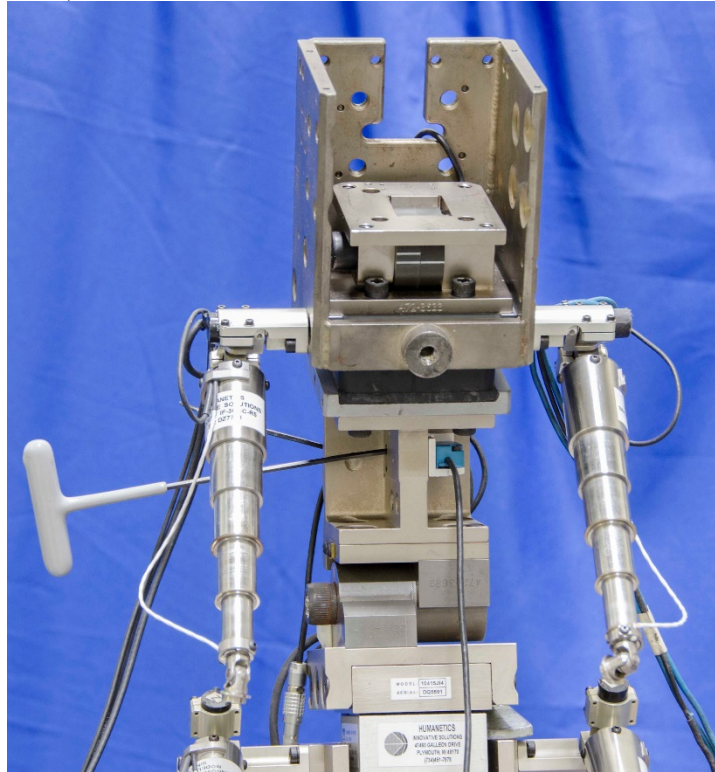
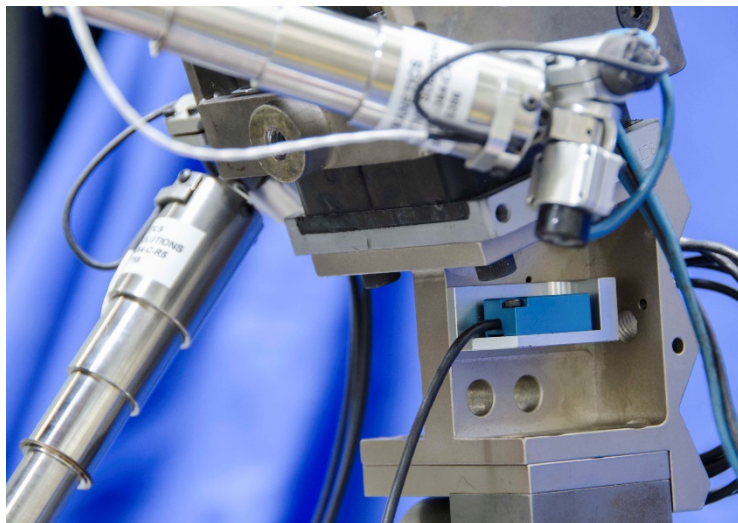

Figure 6-25. Install T6 tilt sensor to spine
Figure 6-26. T6 tilt sensor installed on spine
6.2.2.19 Install the T6 Tilt Sensor Assembly to the left spine using two M3 x 0.5 x 16 FHCS which are inserted through the right side of the spine (Figure 6-25 and Figure 6-26).